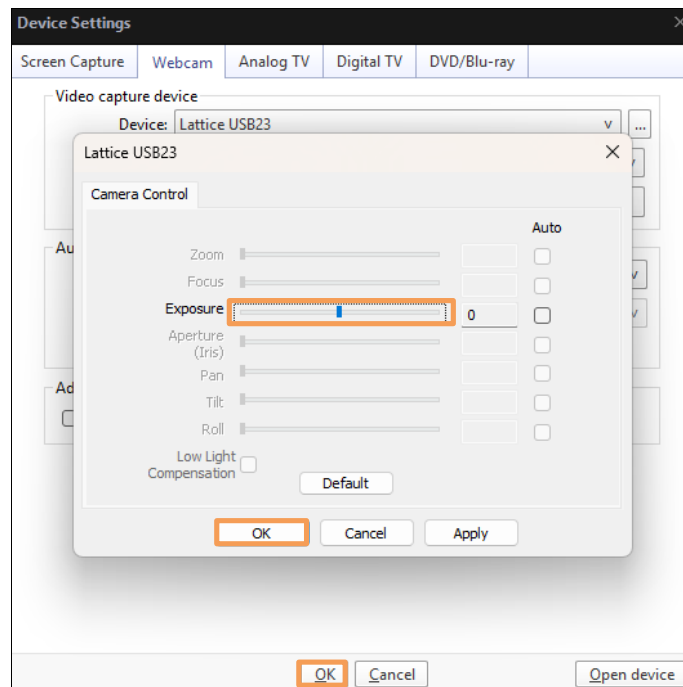

Figure 7.16. Camera Control Menu in PotPlayer 4
- (Optional) In the **Camera Control** menu, adjust exposure using the slider. Then, click **OK** to confirm (Figure 7.16).